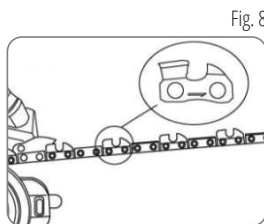

Fig. 8
- The chain must be so fitted over the guide bar that the cutting edges of the cutters face in the direction that the chain runs (see fig. 8).